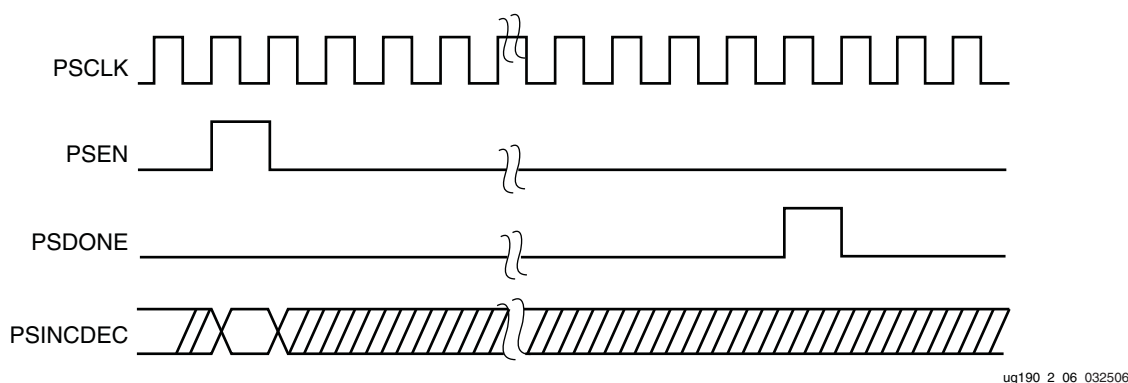

Figure 2-6: Phase-Shift Timing Diagram
Figure 2-6 illustrates the interaction of phase-shift ports.
When PSEN is activated after the phase-shift counter has reached the maximum value of PHASE\_SHIFT, the PSDONE is still pulsed High for one PSCLK period some time after the PSEN is activated (as illustrated in Figure 2-6). However, the phase-shift overflow pin, STATUS(0), or DO(0) is High to flag this condition, and no phase adjustment is performed.